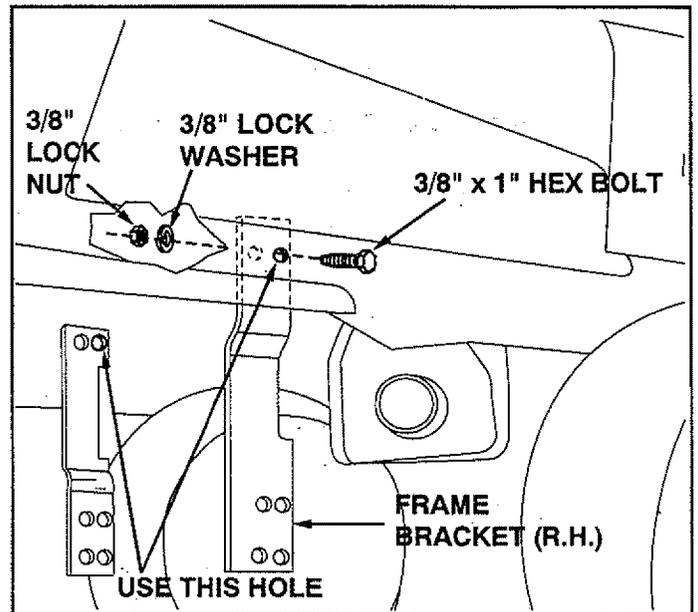

FIGURE 9 (Right Hand Side View)
- Attach frame brackets (R.H. and L.H.) to the inside of tractor frame using the front hole in the brackets and the hole in each side of tractor frame that is at the front of the foot rest and the back edge of the engine. See figure 9. Fasten each bracket with one 3/8" x 1" hex bolt, lock washer and lock nut. (Note that brackets are positioned with the bends pointing in, the notched side to the front and the four holes at the bottom.) **Do not tighten.** See figure 9.